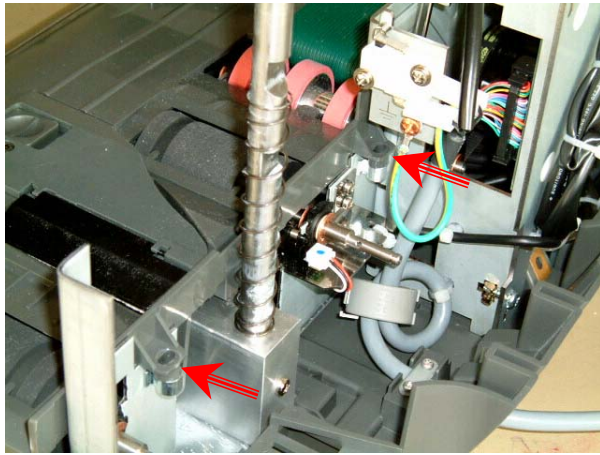
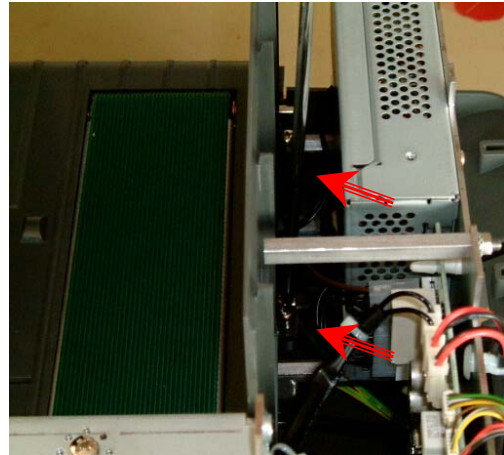
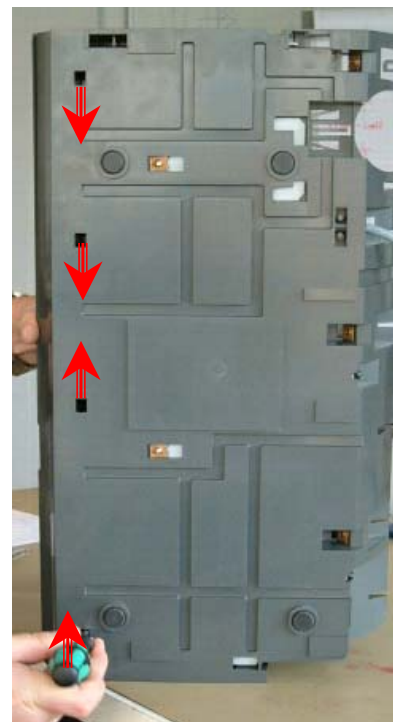

Fig.12
Fig.13
Fig.15
The letter transport table is attached to the frame by 4 Philips screws in the back (Fig.12 & Fig.13), and four clips on the bottom (Fig.15).
- Remove the 4 Philips screws in the back of the letter transport table. (see Fig.12 & Fig.13 below)
- Release the 4 clips on the bottom of the feeder with a flat head screwdriver (Fig.15)
Insert the flat head screw driver into the slots and move the handle in the direction of the arrows shown in Fig.15 to release the bottom cover.